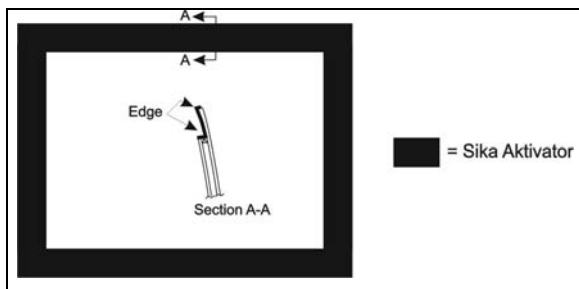
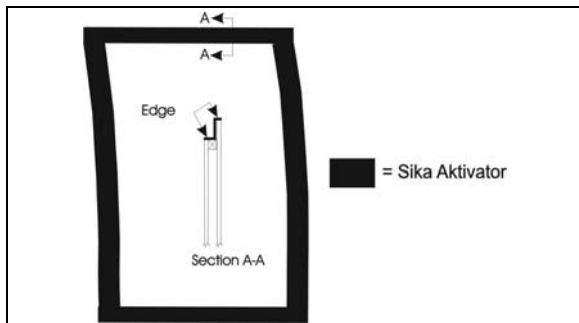

FIGURE 57 : HALF-WINDOW – SIKA AKTIVATOR
FIGURE 58 : SIDE WINDOW – SIKA AKTIVATOR
5. Apply Sika Aktivator on the window pane as per FIGURE 57 (half-window) or FIGURE 58 (side window);